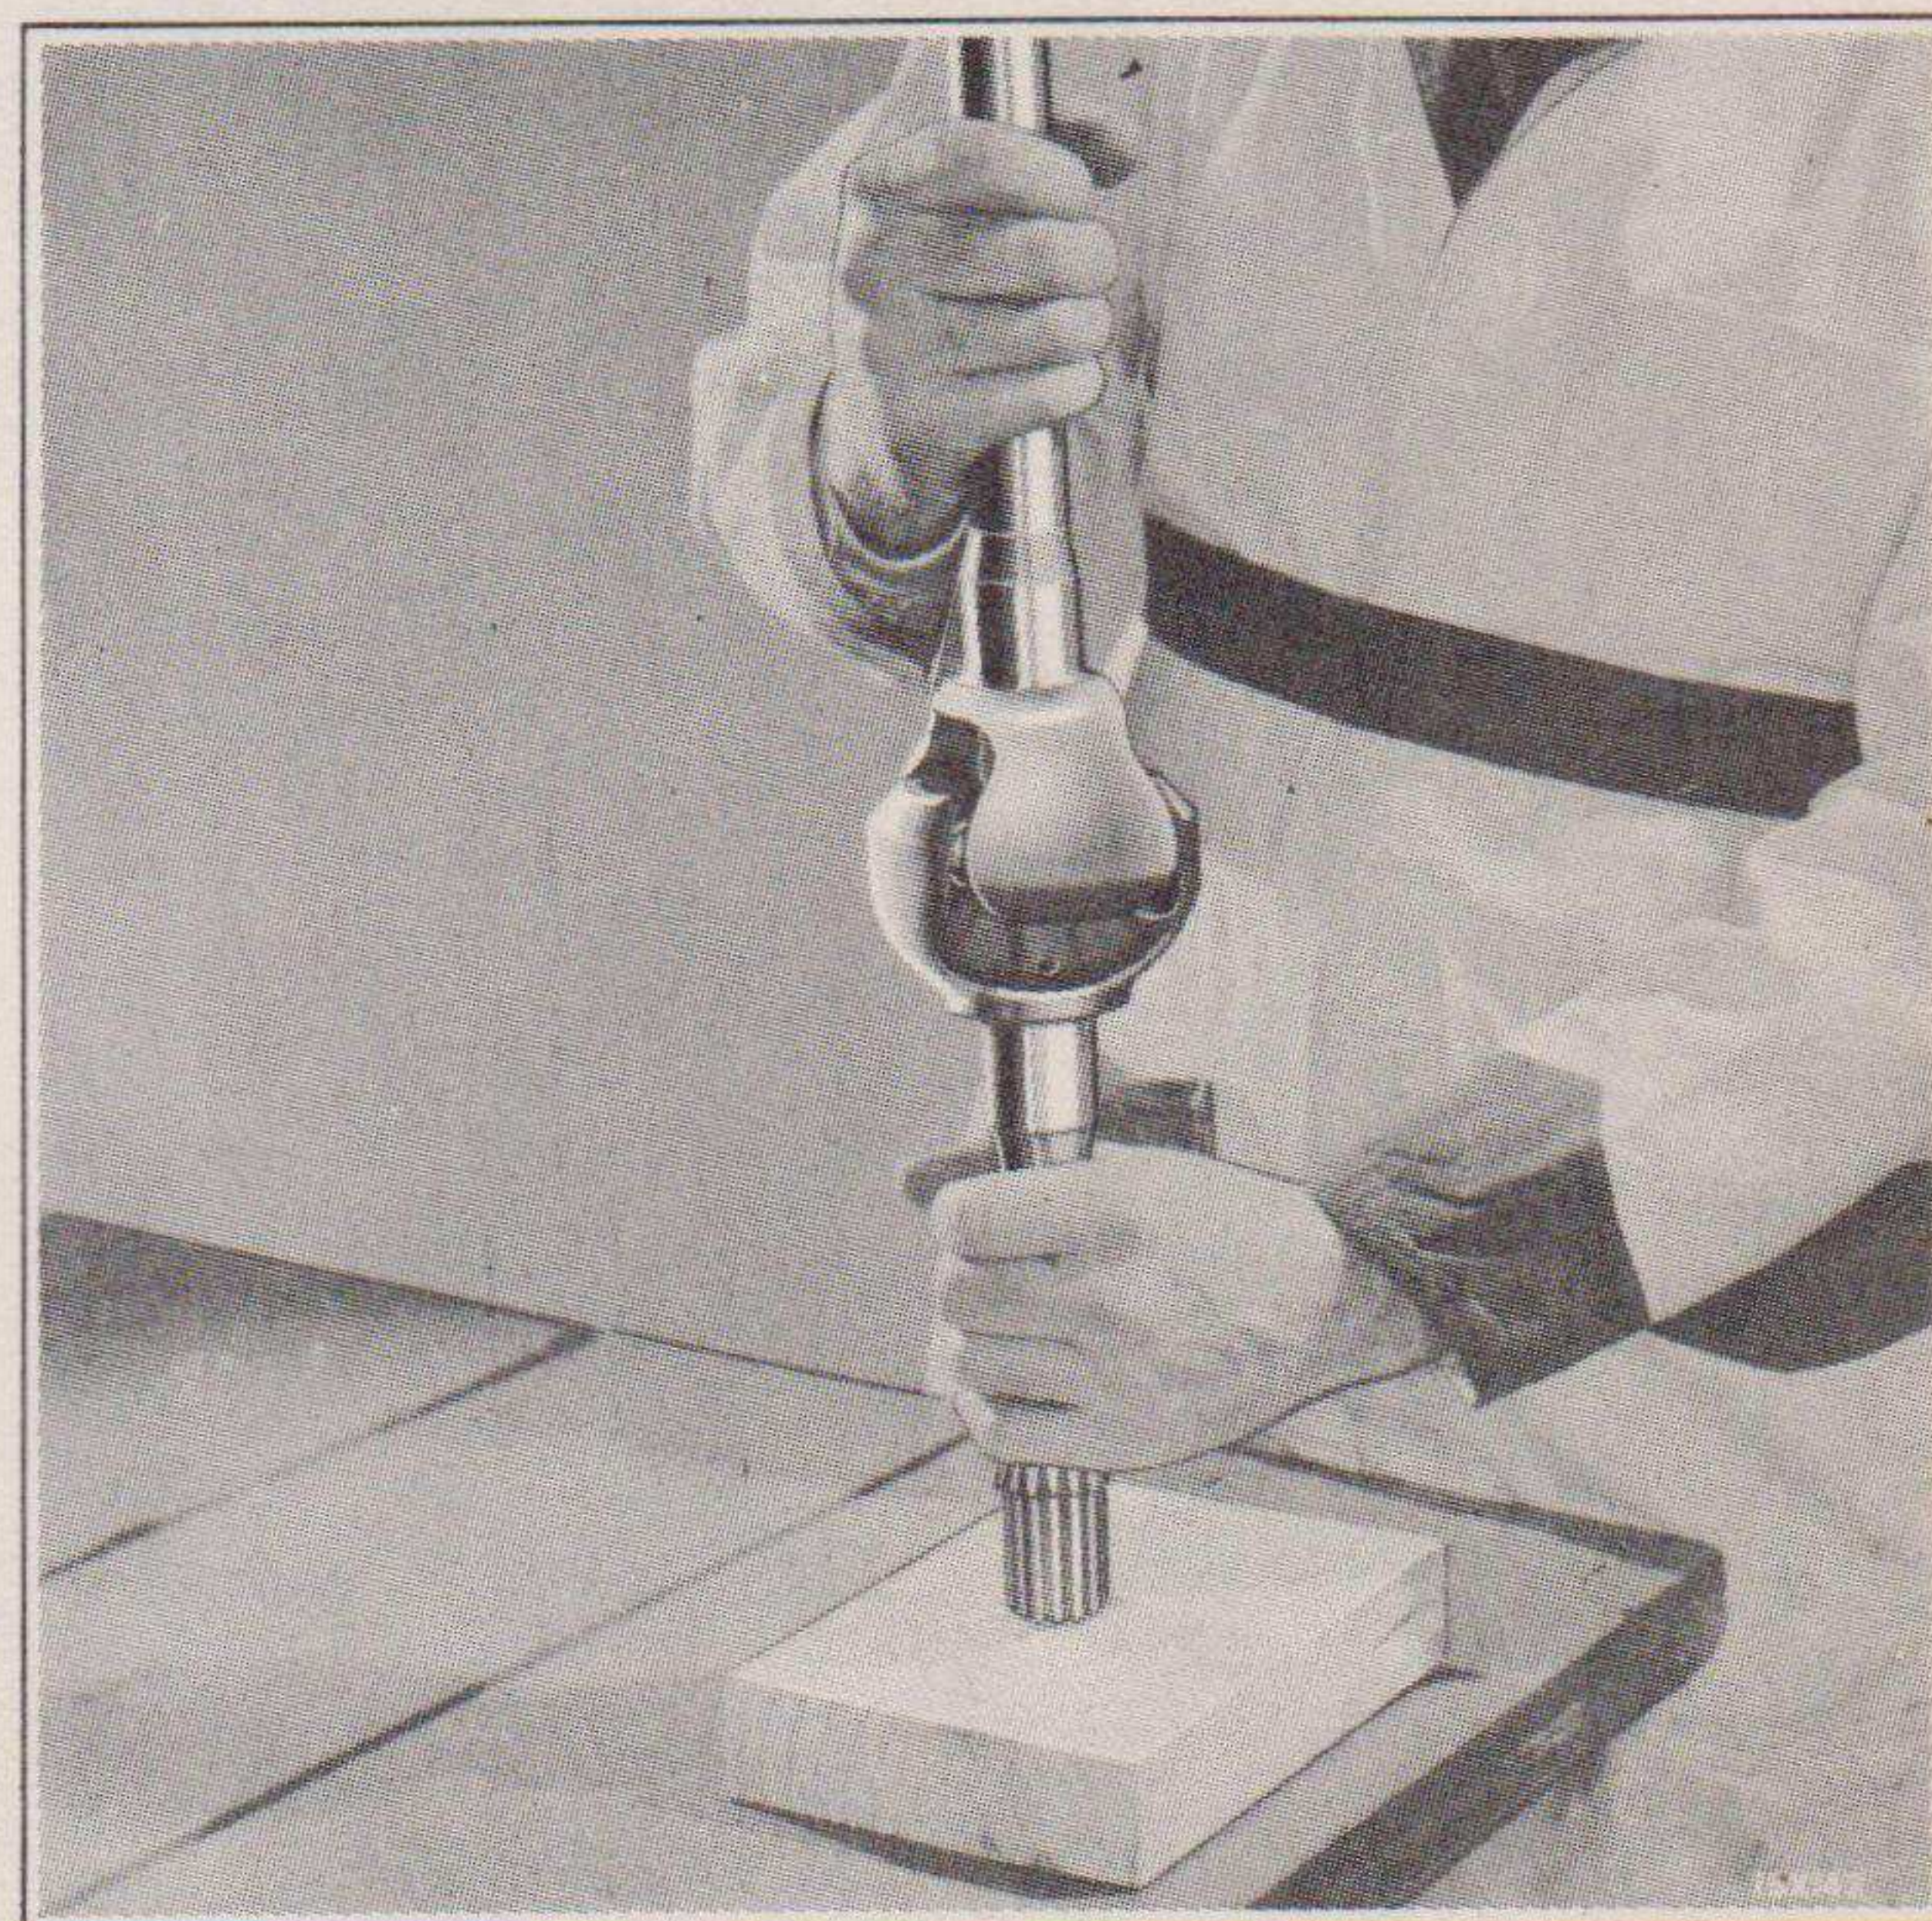

Fig. 17—Dislodging Universal Drive Center Ball Pin
- (c) Bounce the end of the short shaft on a wooden block as shown in Fig. 17 to dislodge the center ball pin, allowing the pin to move farther in the drilled passage in the short shaft. If the lubricant holds the center ball pin in position in the ball, it may be dislodged by means of a pointed instrument inserted in the retainer pin hole.